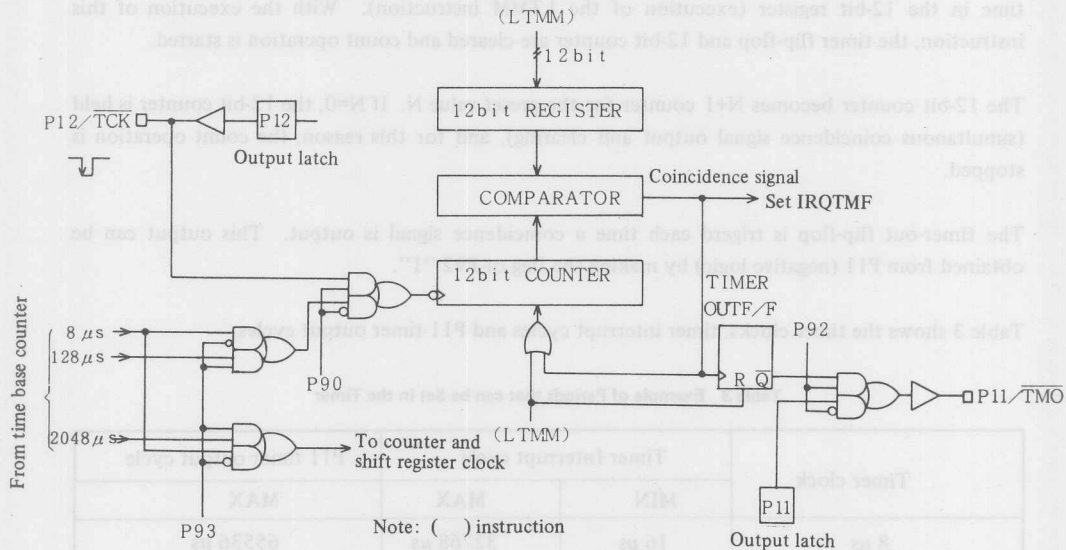

Fig. 24 Construction of Programmable Timer
The programmable timer (TM) consists of a 12-bit register, binary up-counter, comparison circuit and control circuit. Figure 24 shows its construction.